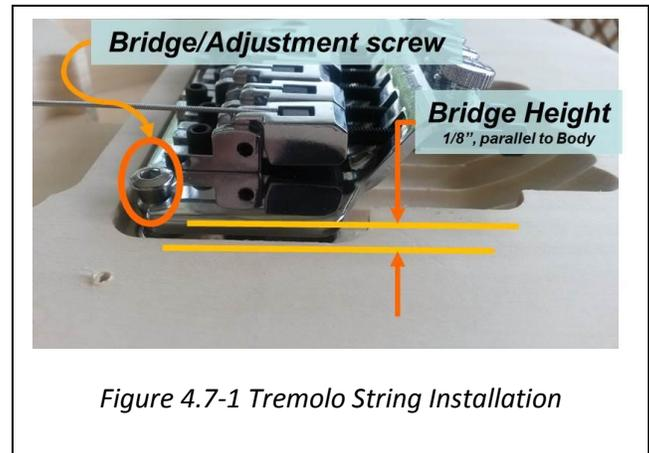

Figure 4.7-1 Tremolo String Installation
2. While holding the bridge assembly by the string locking bolts, use the 3mm Allen wrench to adjust the initial height of the bridge base so that it is approximately 1/8” above the Body. Ensure that the base notches are in the collared head of the adjustment screw (Fig. 4.7-1);
3. Carefully uncoil each of the strings (6), ensuring that the strings do not have a kink;